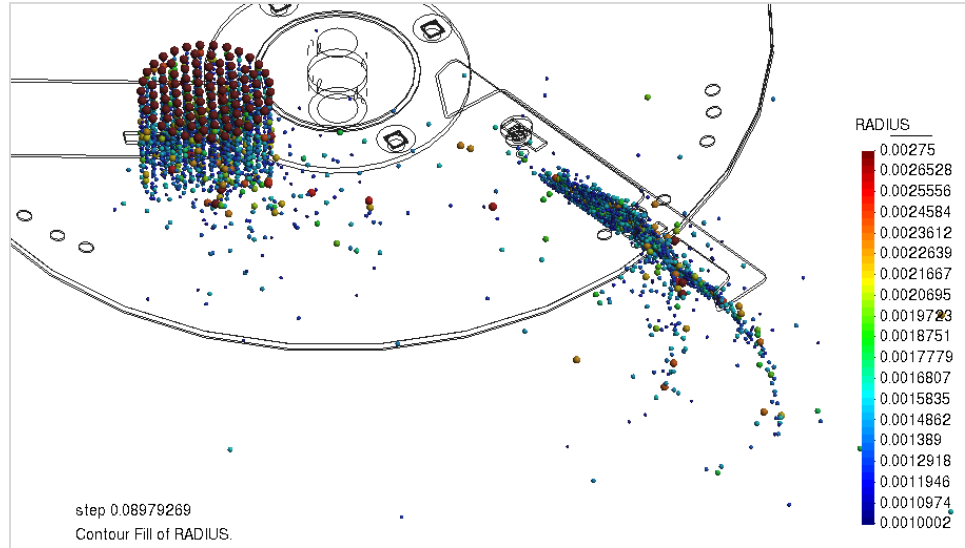

Figure 42. Particle radius.
- **Particle radius:** radius of the particles, in meters (Figure 42). The legend with the color scale is always displayed in the down-right corner of the working area.